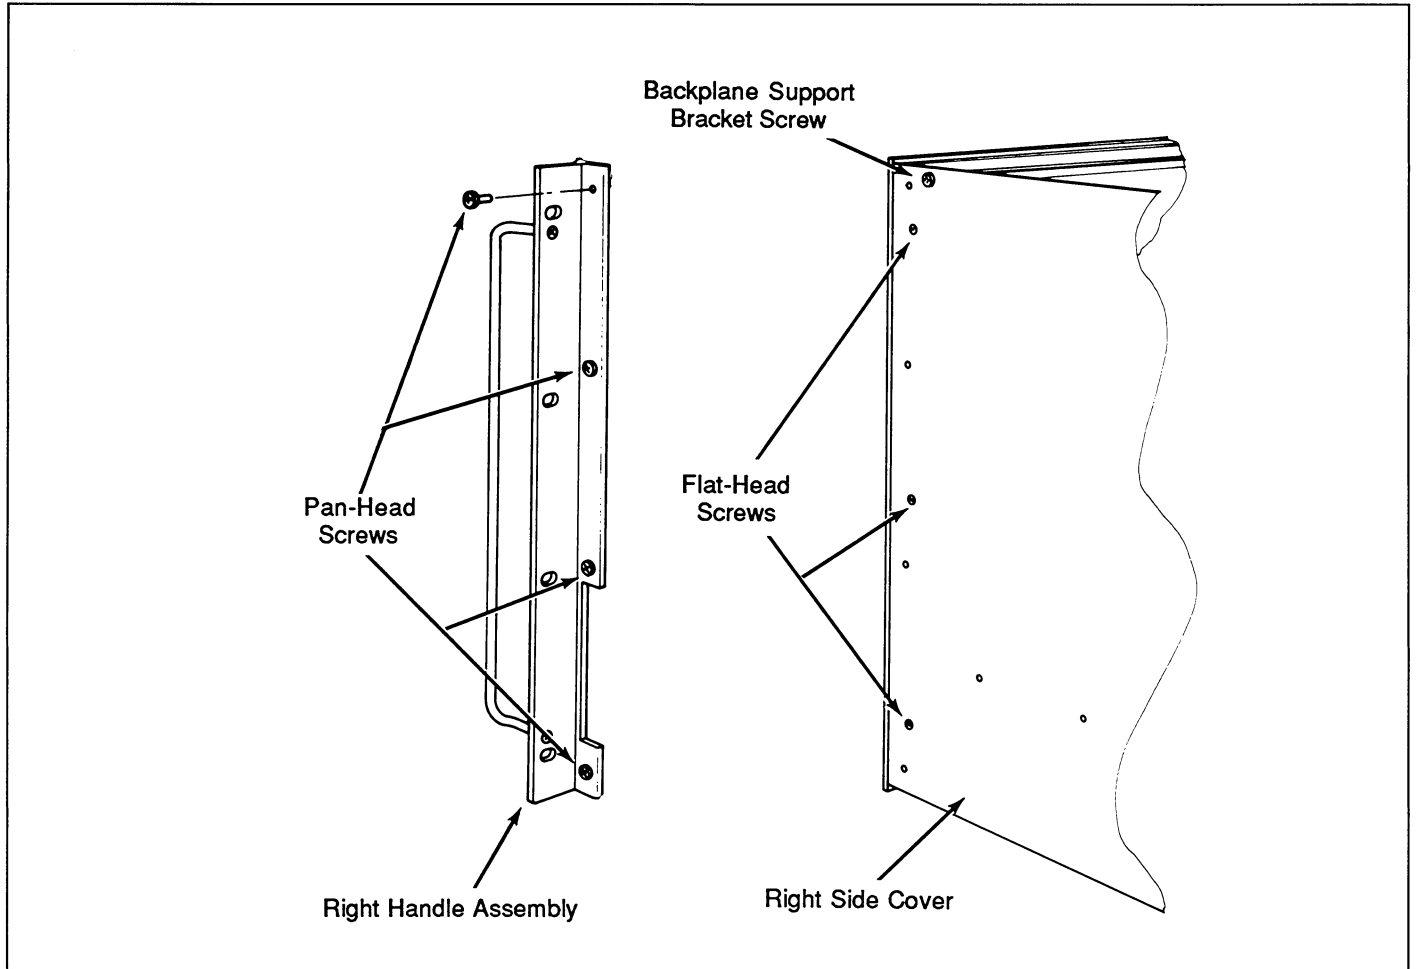

Figure 3-20. Handle and Front Panel Screws
1. Set the mainframe on a bench. (Slightly raise the bottom edge of the front panel off the bench surface by placing a thin book under the mainframe.) Remove the eight pan-head screws holding the handles to the unit. See Figure 3-20.
5. Remove the two pan-head screws attaching the backplane support bracket, as shown in Figure 3-20, and remove the bracket.